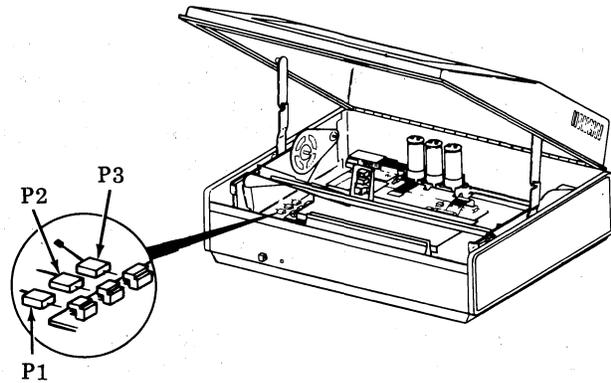

Fig. 5—Connectors
2.06 Check connector P1 at the left front of the integrated controller (Fig. 5) and make sure it is securely connected.